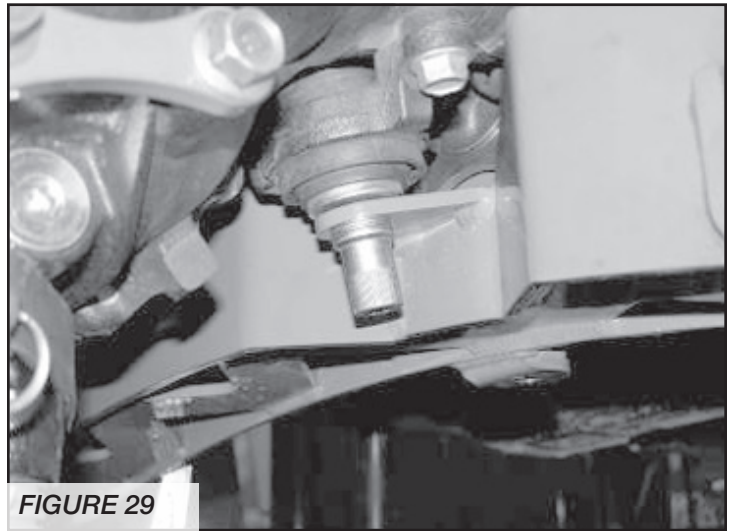

FIGURE 29
21. Locate the Fabtech rear crossmember FT70240 with the supplied $\frac{9}{16}$ " x 5" bolts, nuts, and washers (BAG 1). Install the crossmember to the factory control arm pockets. Leave loose at this time. Re-install the factory rear differential nut at this time. **SEE FIGURE 29**